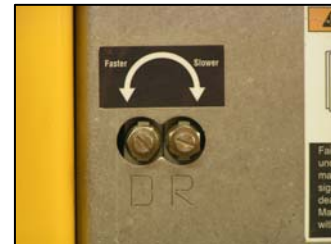

FIG 11
6. **Set Speed Controls:** There are two speed controls located at the rear of the machine at the Valve Assembly cover; (FIG 11) the Router Control is on the right indicated by the "R" on the Valve Assembly Cover; the Drill Control is on the left indicated by the "D" on the Valve Assembly Cover.
- b. Open the Router Speed Control (5) full counter-clockwise revolutions and the Drill Speed (4.5) full CCW revolutions depending on the hardness of the material being cut. *These are the settings set at the factory and may not require any further adjustment.*